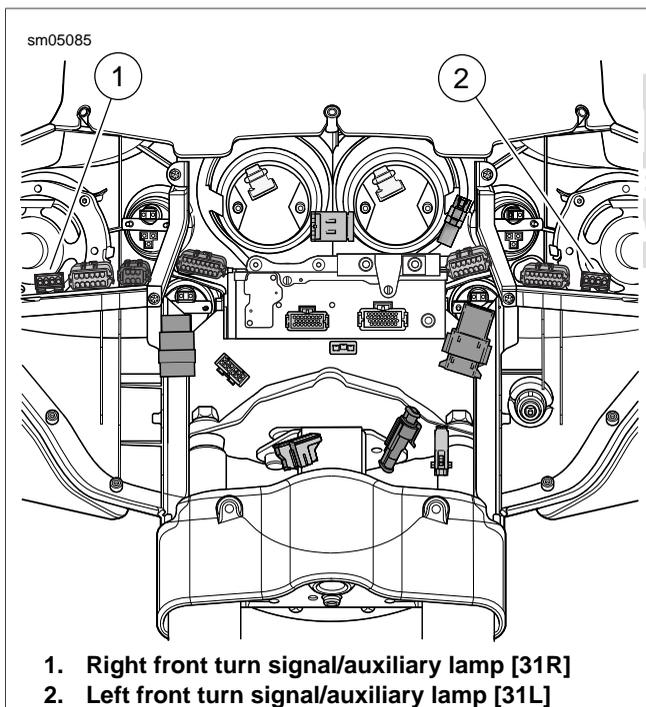

Figure 8-48. Inner Fairing (FLHT/C/U)
- FLHT/C/U:** Remove outer fairing. See 2.35 UPPER FAIRING AND WINDSHIELD: FLHX, FLHT/C/U. See Figure 8-48. Disconnect the left or right front turn signal/auxiliary lamp connector [31L/R], 4-place Multilock, on T-stud at top of left or right fairing support brace (outboard side).
- See Figure 8-48. Disconnect the left or right front turn signal lamp connector [31L/R], 4-place Multilock. Connector is attached to T-stud at top of left or right fairing support brace (outboard side).
5. See Figure 8-48. Connect front turn signal lamp connector. Install connector on T-stud at top of left or right fairing support brace (outboard side).